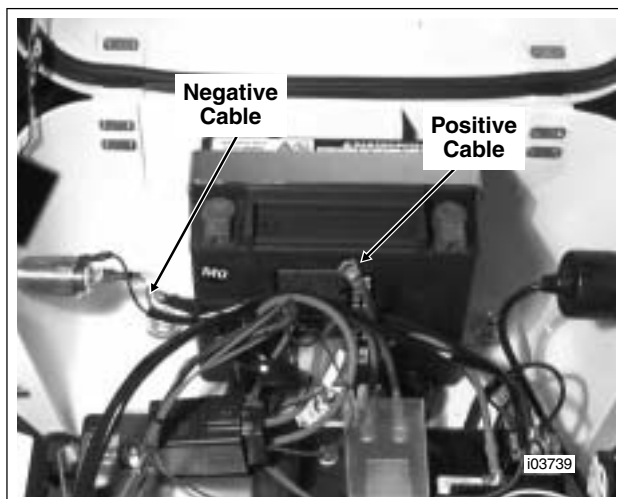

Figure 8-41. Positive and Negative Tour-Pak Battery Cables
23. See Figure 8-41. Locate positive and negative battery cables in Tour-Pak. Make sure cables are not touching each other or anything metal in the Tour-Pak.